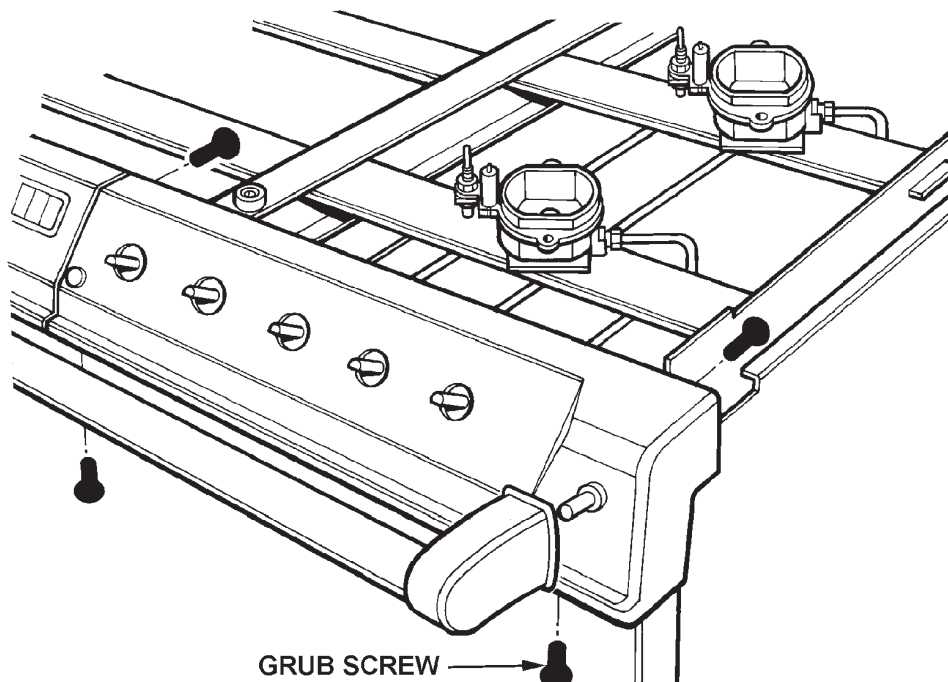

Fig. 34
4. Remove control panel fixing screws (4 per casting) (See Fig. 34). When removing the screws support the casting.
#### D. TO REMOVE HANDRAIL (SEE FIG. 34)
1. Loosen 2 grub screws, one at each end of hand rail (See Fig. 34) using 2 1/2 mm socket key.